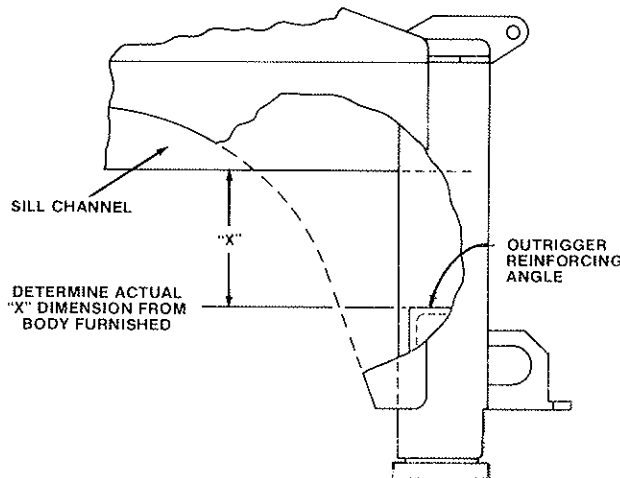

FIG. 5.6
2. Determine "X" dimension on wrecker body furnished. Note: "X" dimension is the distance between bottom of wrecker body sill channel and outrigger reinforcing angle on tailgate. (Fig. 5.6)